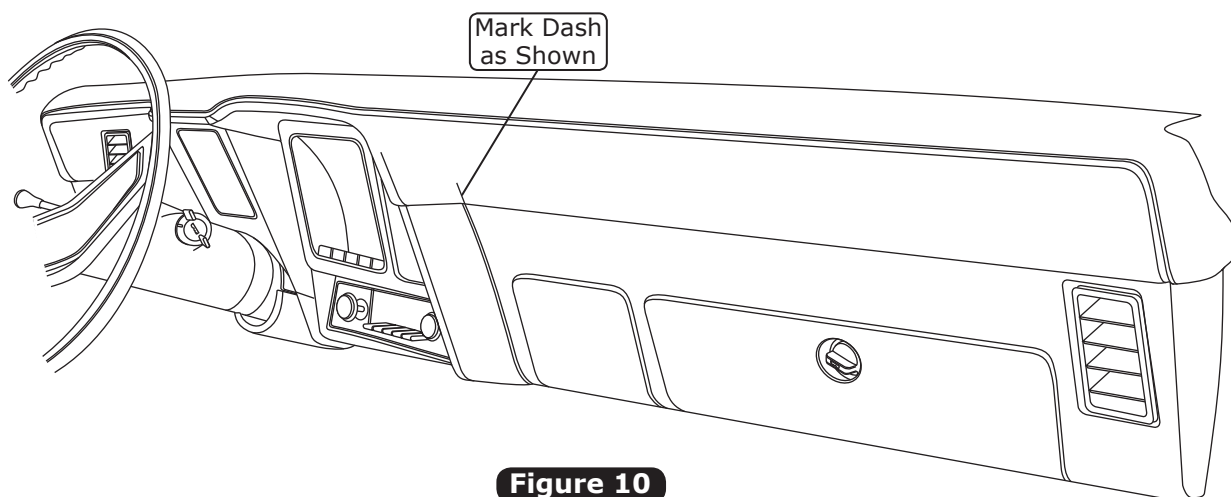
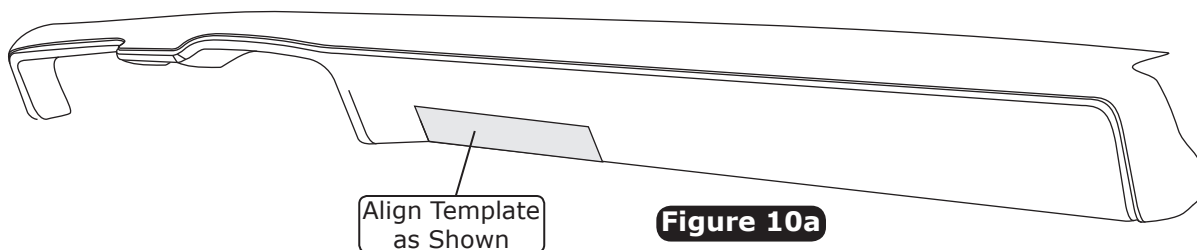

Figure 10
Figure 10a
1. Cut out the center louver template on Page 25. Mark the dash as shown in Figure 10, below, and align the left side of the template with the mark. Align the bottom of the template with the bottom of the dash as shown in Figure 10a, below.